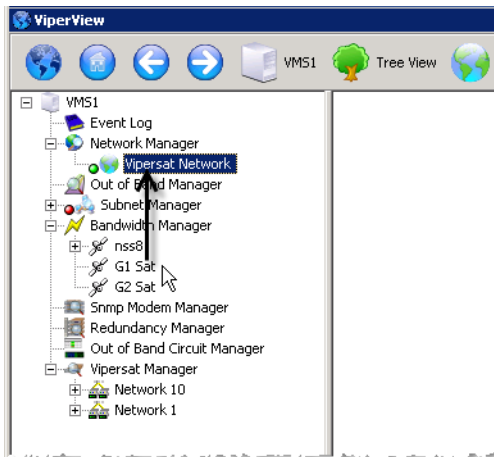

Figure 3-43 Drag and Drop Satellite(s)
4. Drag and Drop the satellite(s) for this network from the Bandwidth Manager onto the Network icon (figure 3-43).